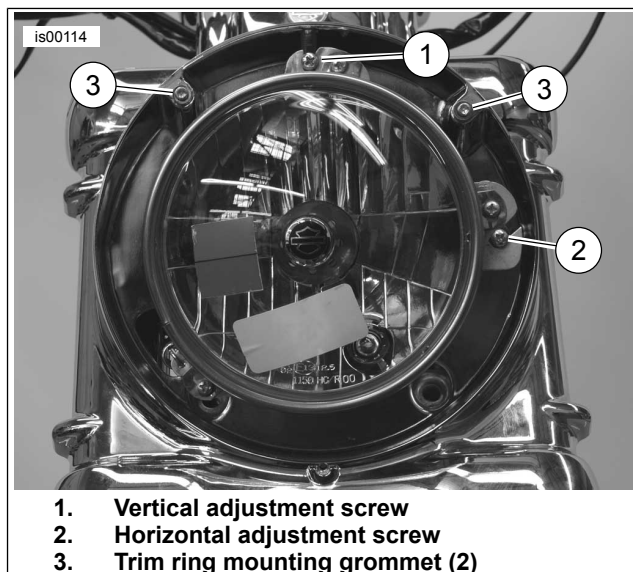

Figure 8. Headlamp Adjustment
- a. See Figure 8. Raise or lower the headlamp beam, as necessary, by turning the vertical adjusting screw (1). Turn the screw clockwise to raise the beam or counterclockwise to lower the beam.
- b. Adjust the headlamp beam left or right, as necessary, by turning the horizontal adjusting screw (2). Turn the screw clockwise to adjust the beam right, or counterclockwise to adjust the beam left.